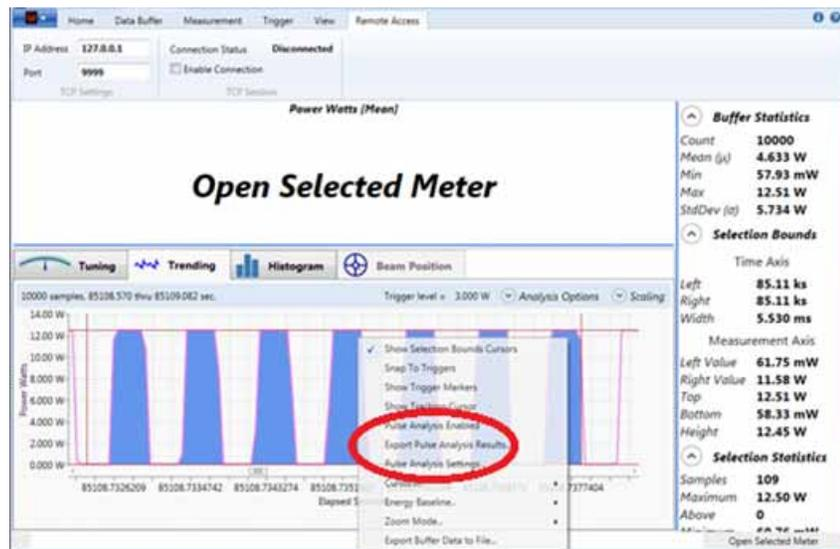

Figure 2-24. License Manager – Pulse Analysis Context Menu Options
- The Pulse Analysis options in the window pop-up menu (shown in Figure 2-24):